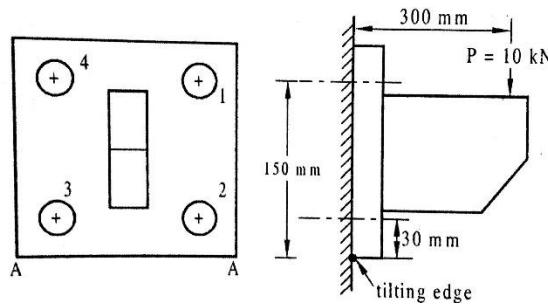

Fig Q9(b)
- b** A bracket is fixed to the wall by means of bolts and loaded as shown in Fig Q9(b). (10 Marks) Determine the size of bolts taking allowable shear stress of bolt material as 40 MPa.